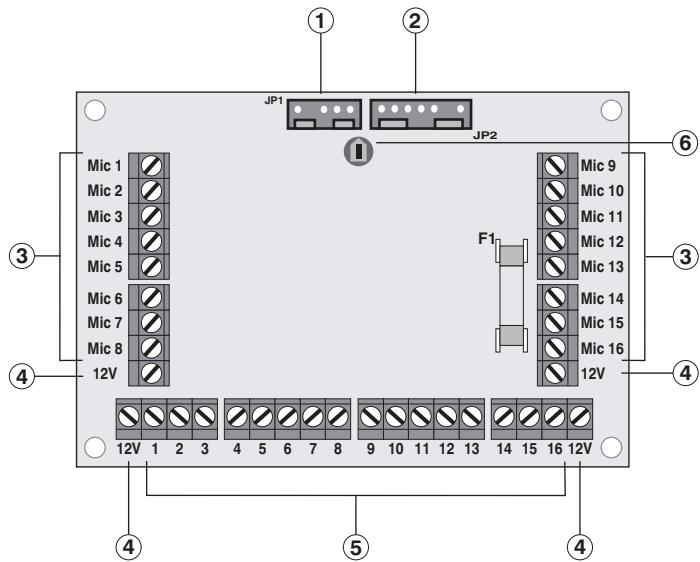

Figure 1. AV Module PCB Layout
- 5) Enter [0][1] to select *RMU* 01 and listen to the audio response on your telephone. You can press the [\*] key to generate a "Ping" tone if required. If the audio level is to low or high the level can adjusted for ALL microphones by adjusting the volume level on the *AV Module* PCB (see Figure 1). If the audio level is to low or high for a particular microphone it can adjusted at the microphone itself.